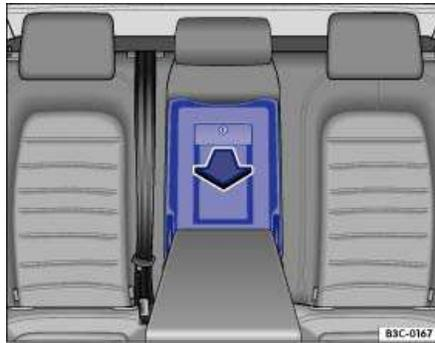

Fig. 102 In the rear seat backrest: Opening the luggage compartment pass-through.
- Pull the release lever ⇒ fig. 102 and fold the pass-through cover all the way forward.